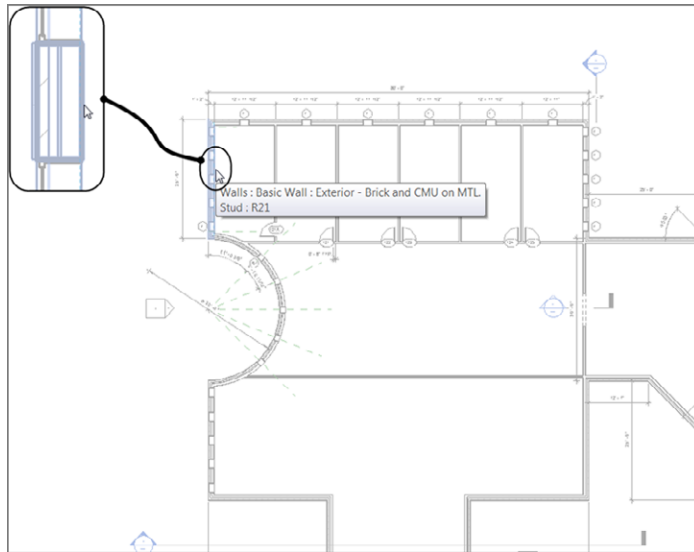

FIGURE 6.9 : Picking the inside face of the first wall
3. After the wall becomes highlighted and you're sure you're on the inside of the wall, pick it (see Figure 6.9).